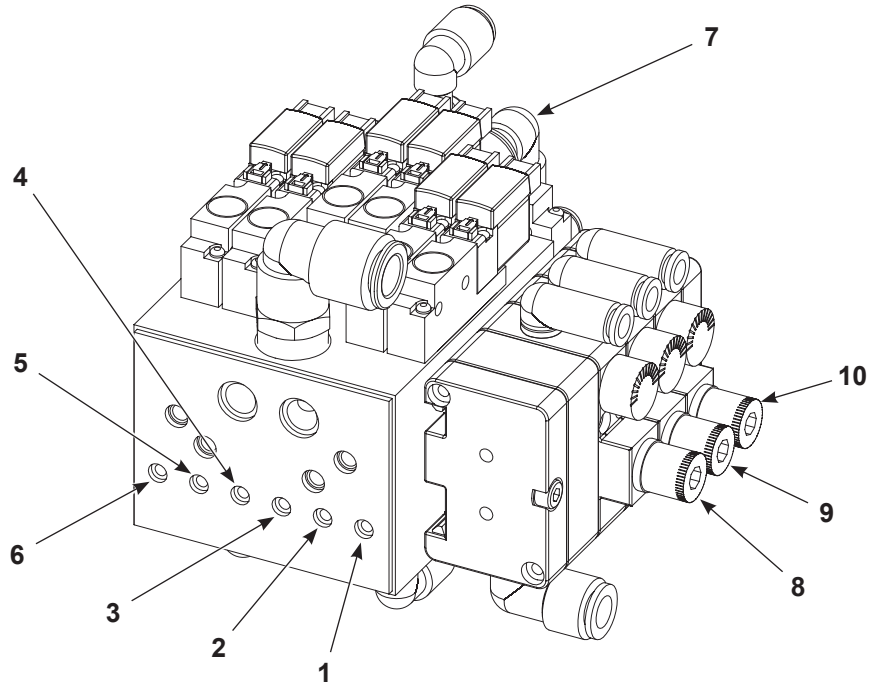

Figure 2-9 Pump Control Manifold
See Figure 2-9. The Encore High-Density powder, Low-Volume air (HD) powder feed pump transports precise amounts of powder from a feed source to a powder spray gun. The pump control manifold controls the air flow in and out of the pump.